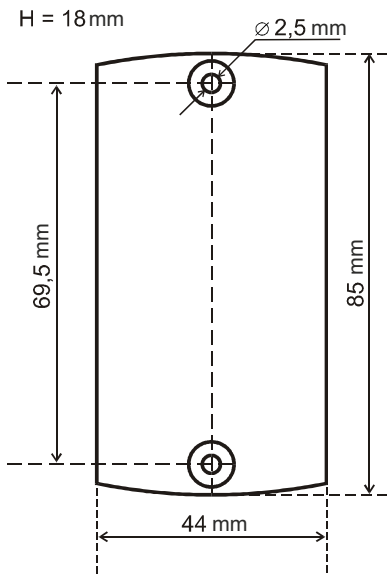

Figure. 1
- Mark and drill the mounting holes, per Fig. 1;